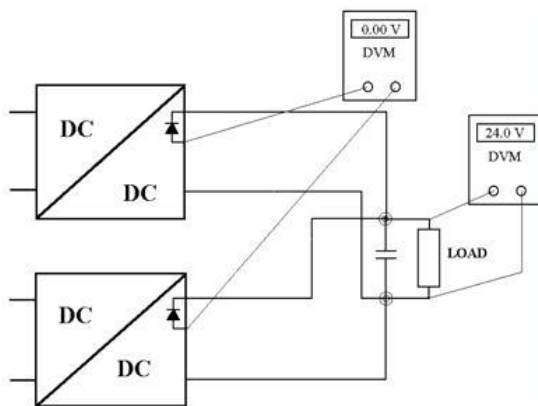

Figure 6. Adjusting output voltage measure at +Test or pin 8 on the H15 connector.
2. Measure the voltage at the load. Connect voltmeters as shown in *Figure 6*. If you have only access to one voltmeter you must move it around to make the adjustments.
Increase the output voltage by turning the potentiometer marked "V.ADJ" clockwise on the unit with the lowest output voltage until you reach the desired voltage at the load or until the output voltage does not increase anymore (as the unit is in current limit). To find the unit with the lowest output voltage you can measure the voltage difference before the series diode, as in *Figure 6*.
anymore (as the other units supply all current). To find the unit with the highest output voltage, measure the voltage difference before the series diode, as in *Figure 6*.